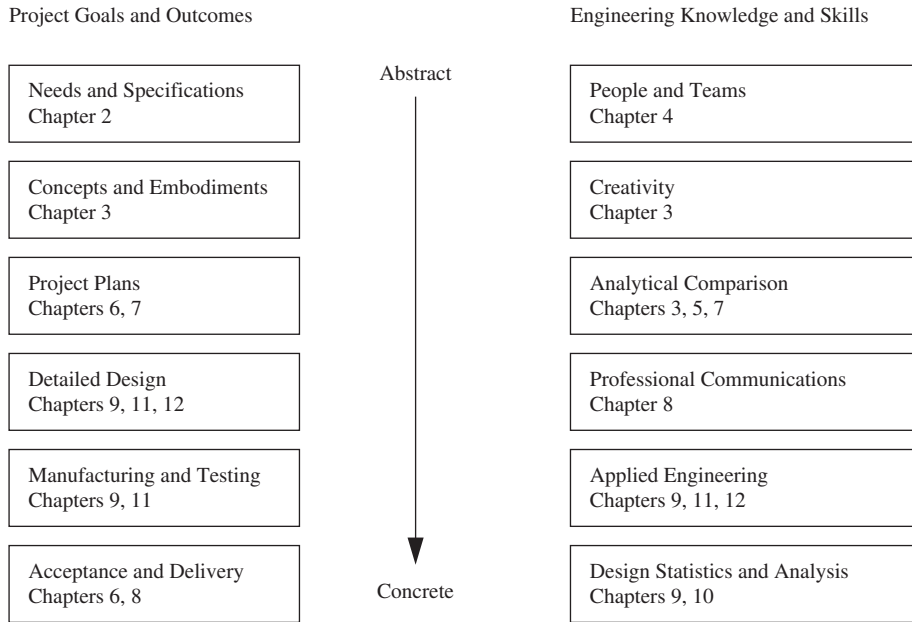

FIGURE P.1
- The sequence of the chapters supports a relatively generic project sequence for just-in-time learning. However, instructors may change the chapter sequence as necessary. See Figure P.1 for alternate approaches to the book’s content.